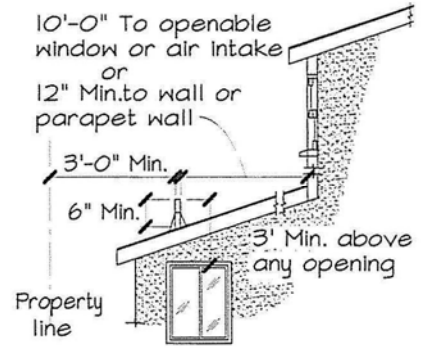

Figure V-1 VENT TERMINATION
2. Vents pipes shall extend through and terminate not less than 6" above the roof nor less than 1 ft. from any vertical surface. Also, each vent shall terminate not less than 10 ft. from, or at least 3 ft. above any openable window, door, opening, air intake, or vent shaft, nor less than 3 feet from any property line, except public right of way. (Section 906 U.P.C.) See Figure V-1 to for a general illustration of these requirements.